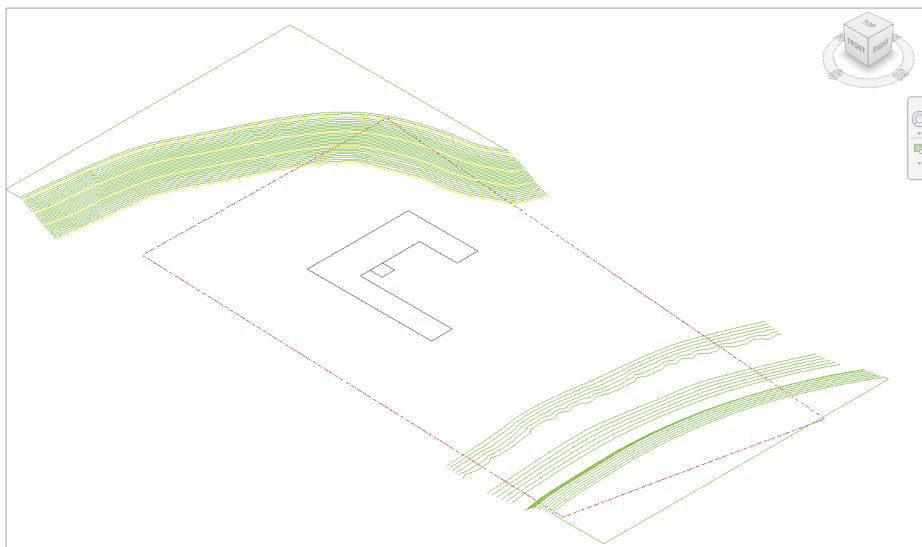

FIGURE 13.7 Linked CAD file as seen in a 3D view
5. Click Open to close the dialog box and complete the insertion of the CAD link. Open a default 3D view to examine the results (Figure 13.7).